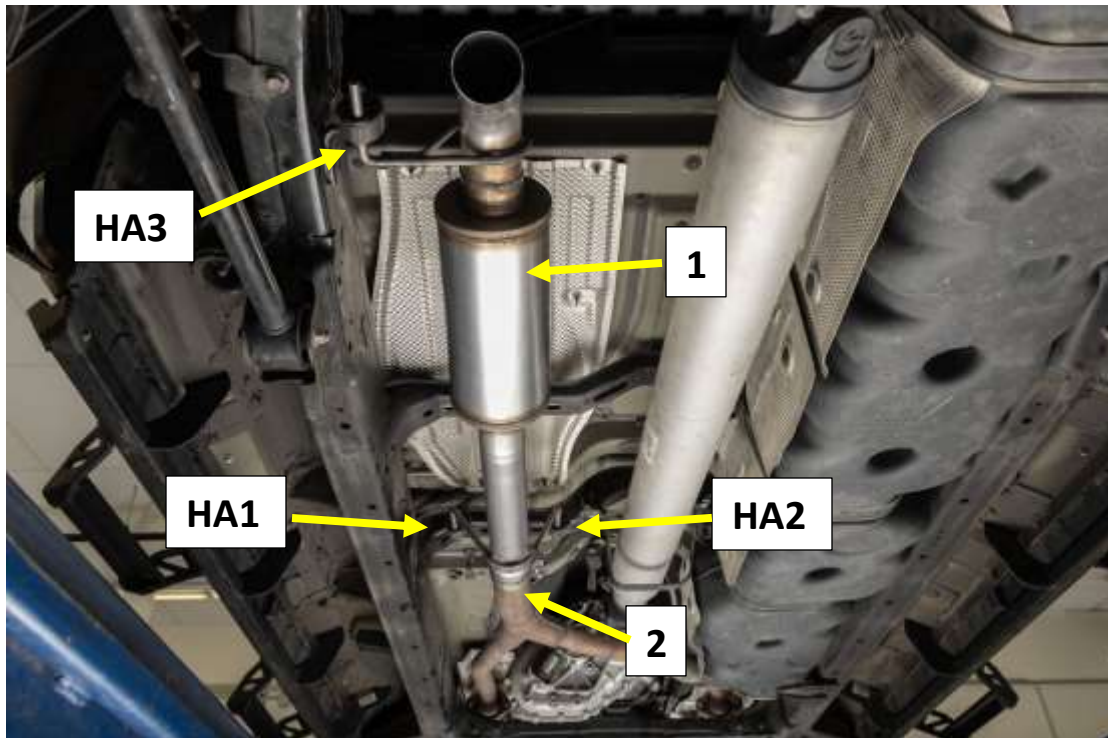

Figure 2
1. Install the supplied MC313BS band clamp **(2)** on to the expanded inlet of the 718141 muffler assembly **(1)** . **Fig.2**
4. Reinstall the rubber muffler hanger isolators and tailpipe isolator on to the muffler assembly **Fig.2**